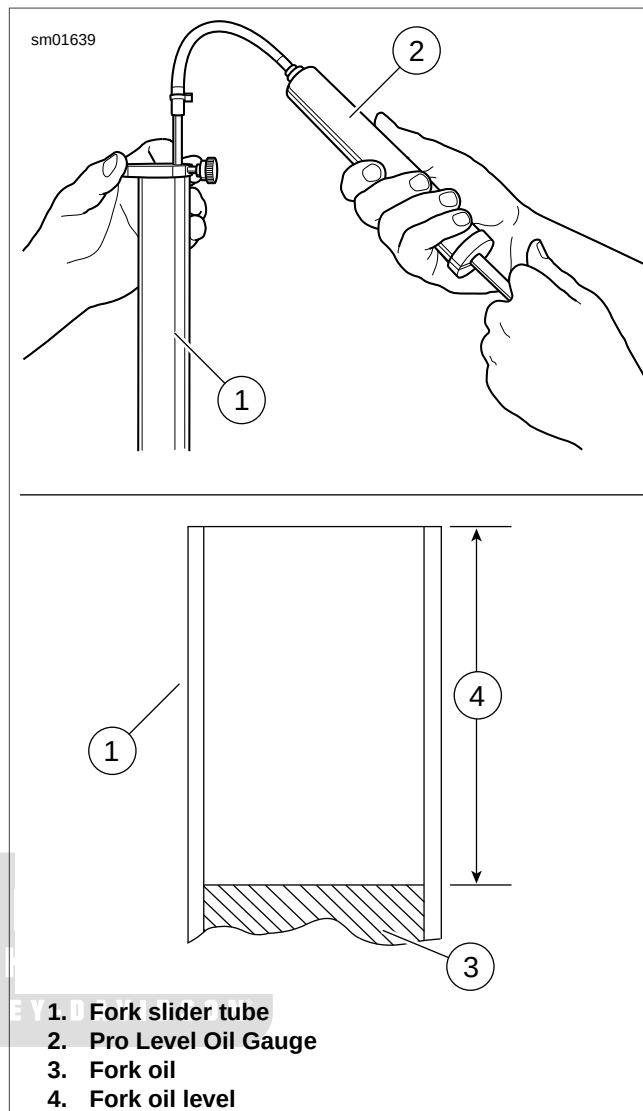

Figure 1-79. Refilling Front Fork Oil
3. See Figure 1-79. Using HARLEY-DAVIDSON PRO-LEVEL OIL GAUGE (Part No. HD-59000-B), adjust oil level: